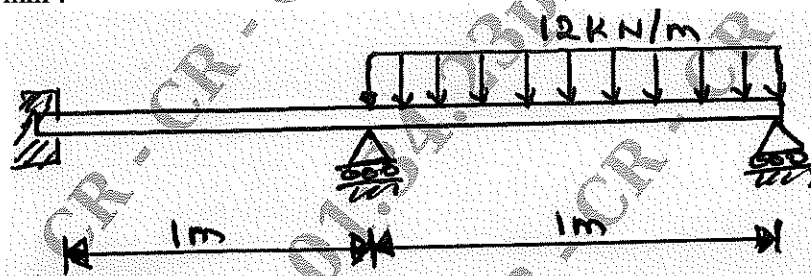

Fig.Q5(b)
- b. For the beam and loading shown in Fig.Q5(b), determine the slopes at 2 and 3, and the vertical deflection at the midpoint of the distributed load. Take $E = 200 \text{ GPa}$, $I = 4 \times 10^6 \text{ mm}^4$.